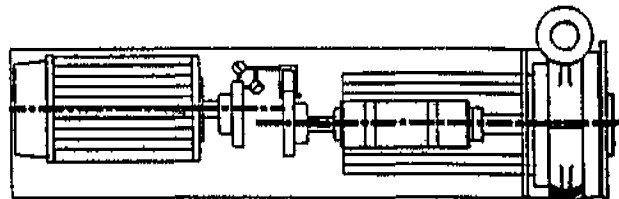

FIG. 7B
3. **NEGATIVE READING** - Coupling half Y is to the left of coupling half X. Correct by sliding driver evenly in the appropriate direction (Fig. 7B).